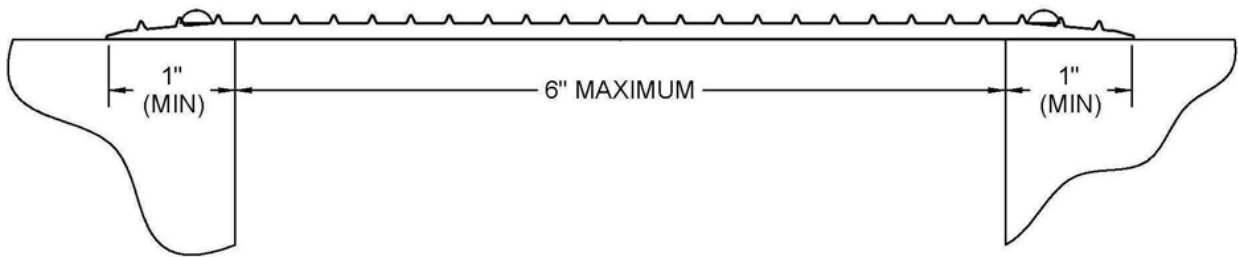

FIG. 6.17
- ⚠ **WARNING:** Ensure that at least 1" on each of the supporting edges of the plate is supported on a good, sound construction surface that is free from defects (FIG 6.17).